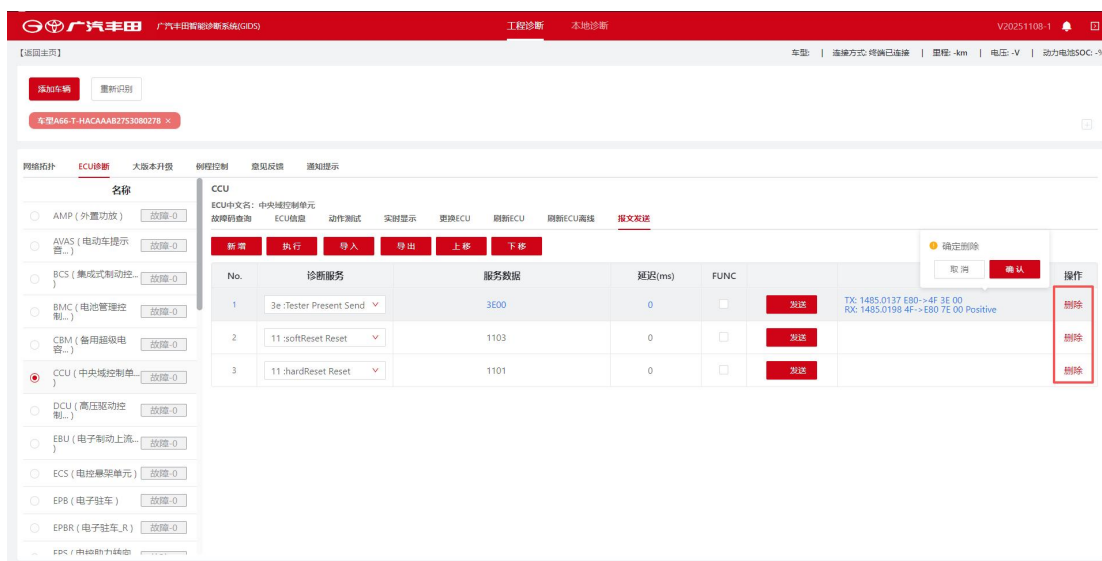

Figure 5-43 Delete
4. Deleting diagnostic messages is supported. Select the corresponding diagnostic service in the list and click [Delete], as shown in Figure 5-43 Delete. The deleted